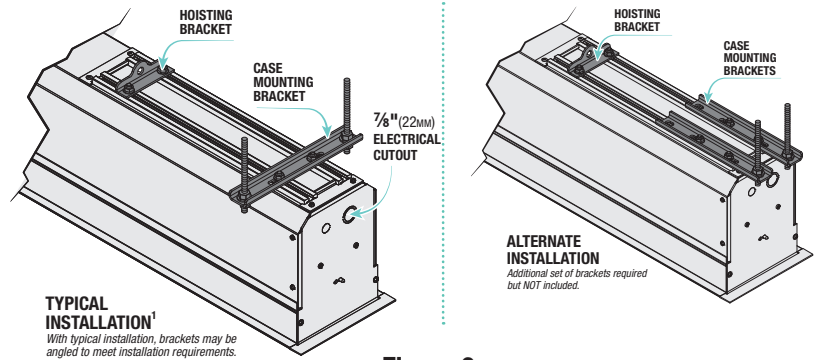

Figure 2
1. Engage each case mounting bracket (*attached to case*) with top of housing (*Fig. 2*) and tighten set screws.